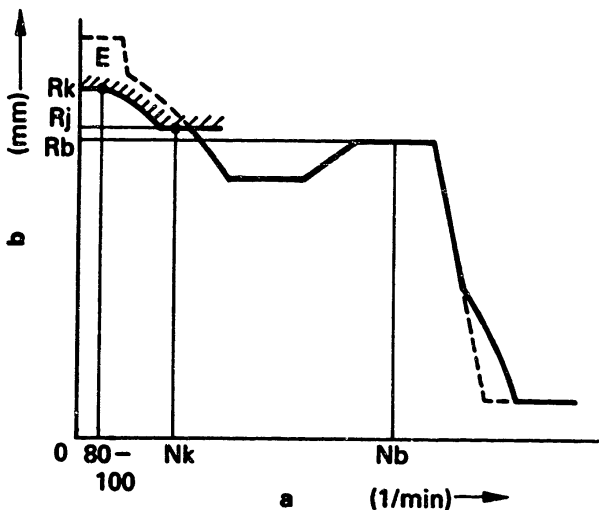

Fig. 97 Smoke limiter performance
3. Maintain the pump speed at "Nb" rpm. (Fig. 97)
7. Reduce the pump speed to 80 - 100 rpm, then check that the control rack position is "Rk". Check the fuel injection quantity for "engine start" at point E. (Fig. 97)